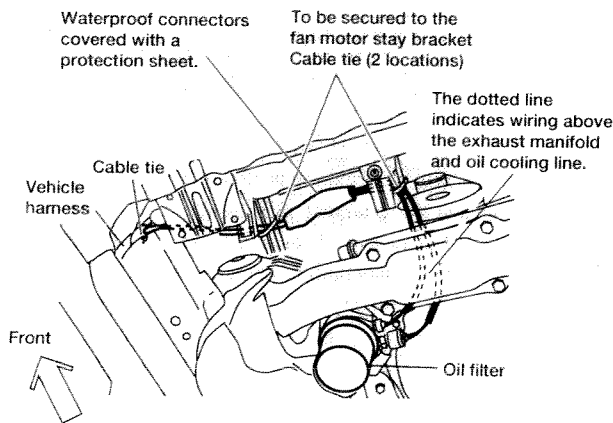

Figure 3-6
7. Route the sensor harness from the top of the exhaust manifold and over the oil cooling line toward the radiator. Tie the sensor harness together with the vehicle harness using cable ties (3 locations). (Figure 3-6)